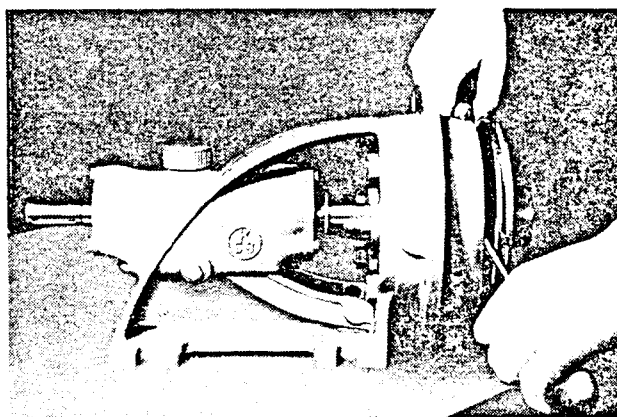

Fig. 12 Pushing off the impeller with the aid of two screw-drivers or other suitable tools
3. Push the impeller off the stub shaft – see fig. 12. Remove the key.